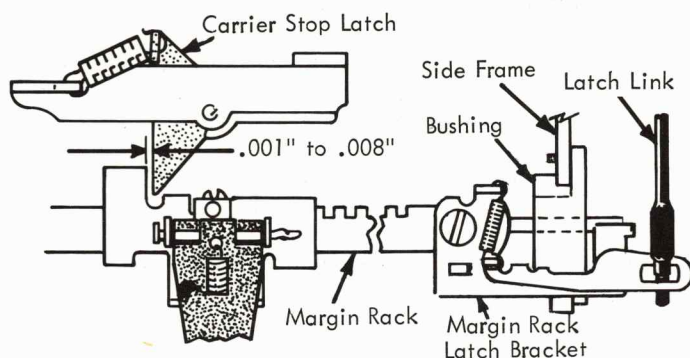

FIGURE 150.2 Margin Rack Latch Adjustment
- b. With the margin stop pin of the left hand margin stop fully seated in the extreme left tooth of the margin rack, adjust the margin rack latch bracket assembly to obtain .001" to .008" clearance between the left hand stop on the carrier and the left hand margin stop (Fig. 150.2). Make sure the margin rack latch is touching the right hand margin rack bushing.